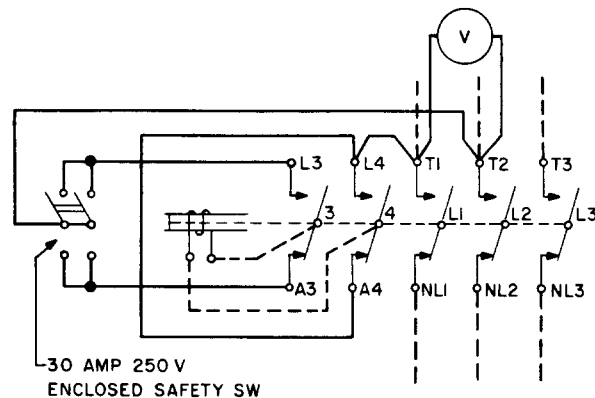

Fig. 7 – Checking Circuit for Bulletin 905, 907, and 908 Switches
(1) When checking for the electrical requirements, disconnect the switch from the working circuit. Disconnect and tape the leads at terminals L3, L4, A3, and A4. Set up the checking circuit shown in Fig. 7 using wire of the sizes specified below. The operating coil is designed for momentary duty only and for that reason the switch should not be operated more often than once per minute.